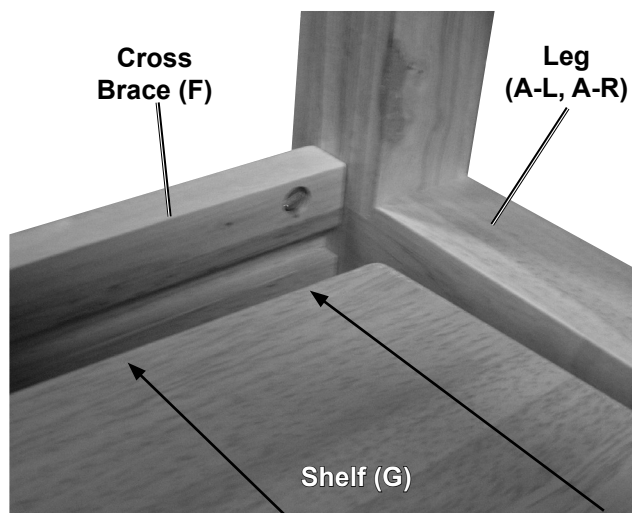

Figure 3
4. Once both Legs have been fastened to the Cross Brace, slide the Shelf (G) between the Legs so that the far edge fits onto the groove on the Cross Brace. See Figure 3, below.